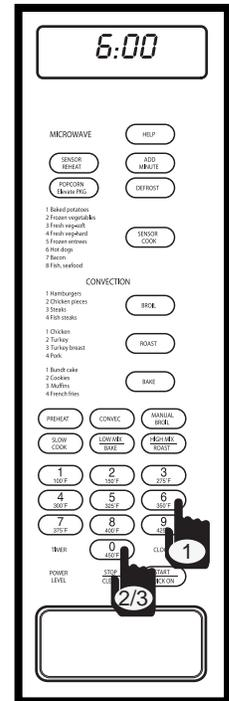

Figure 3-47. Enter Start Time
3. Enter desired start time. For example: 6:00; press the number 6 key and number 0 key twice (See Figure 3-47). The display will flash “**PRESS - CLOCK**”.